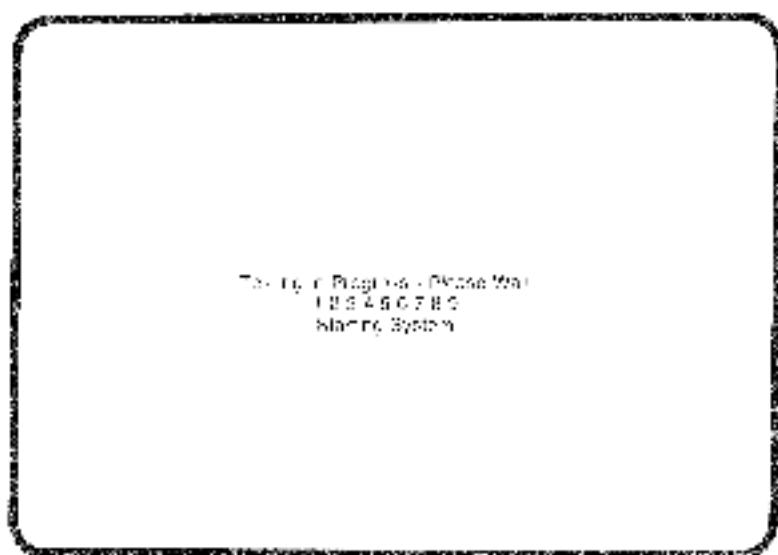

Figure 1-6 KDF11-BC Startup Message
- The KDP11-B CPUs display a "Testing in Progress" message (Figure 1-6).